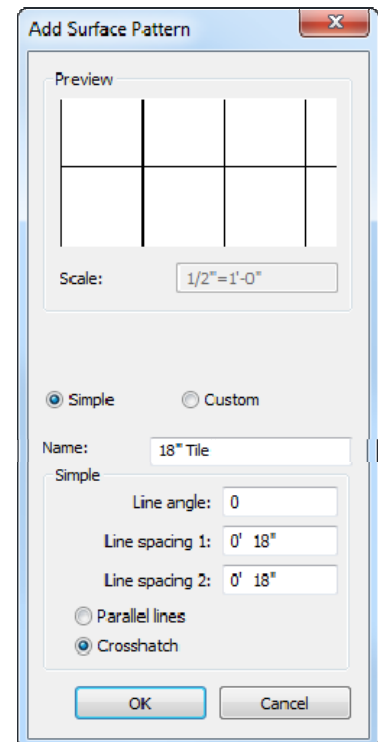

FIGURE 4-3.22
92. Create a new pattern named **18" Tile** – adjust the settings to match Figure 4-3.22.